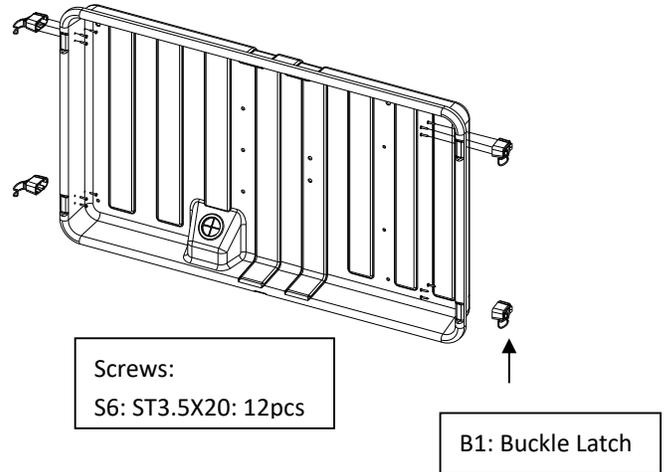

Figure 3
- Assemble the four buckle latches (B1) onto the Storm Shell Back using the S6 screws (Figure 3).